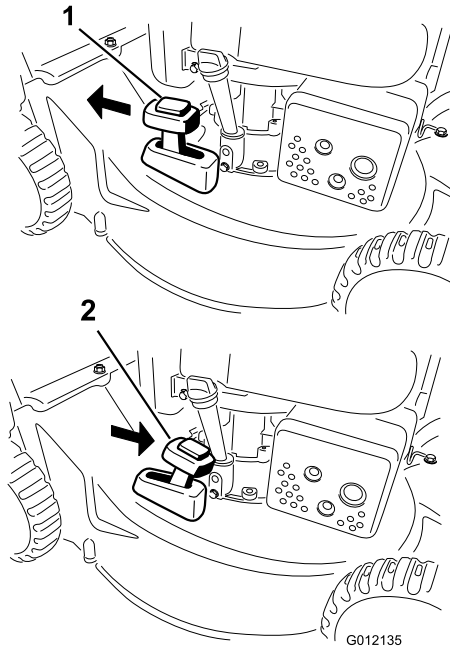

Figure 18
To recycle the clippings, move the bag-on-demand lever to the **recycling** mode (Figure 18).
2. Install the grass bag; refer to Removing the Grass Bag \(page 11\) and move the bag-on-demand lever to the **bagging** mode (model 20836 only) as shown in Figure 18.
Note: If the grass bag is on the machine, remove it before rear-discharging the clippings; refer to Removing the Grass Bag \(page 11\). The bag-on-demand lever should be in the **bagging** mode (model 20836 only) as shown in Figure 18.